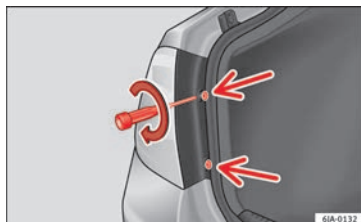

Fig. 158 Fit the tail light unit.
- Take the screwdriver or a Torx 20 key (T20) from the vehicle tool kit and tighten (turning clockwise »» **Fig. 158**) the two retaining screws that secure the front of the light.